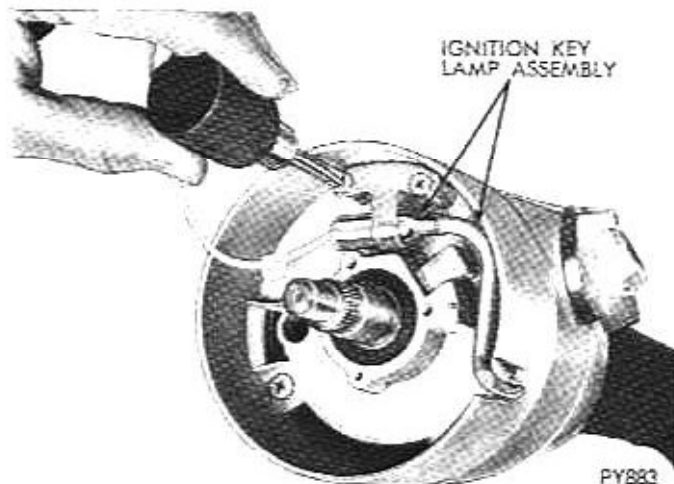

Fig. 6—Ignition Key Lamp
(6) Remove two retaining screws and lift the ignition key lamp assembly out of the way (Fig. 6).